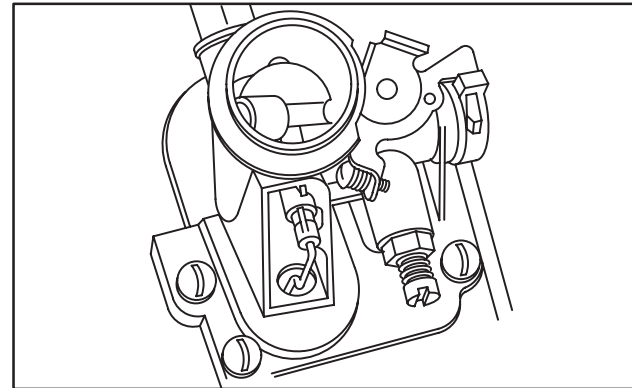

Fig. 166 – PRE-LOADING DIAPHRAGM
1. Move choke plate to an over center position as shown in Fig. 166.